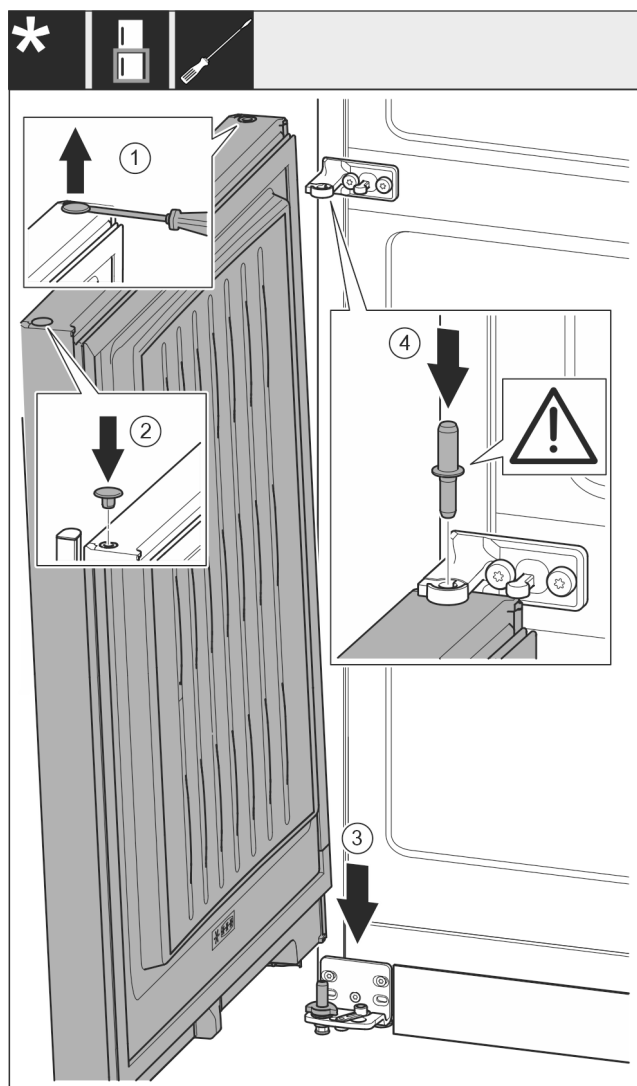

Fig. 18
- Carefully lift up the plugs with a slotted screwdriver and pull them out. Fig. 18 (1)
- Insert the plugs again on the other side of the door. Fig. 18 (2)
- Position the door from above onto the lower bearing pins. Fig. 18 (3)
- Insert the center bearing pin through the center bearing bracket into the bottom door. Make sure that the latching lug is pointing to the rear. Fig. 18 (4)